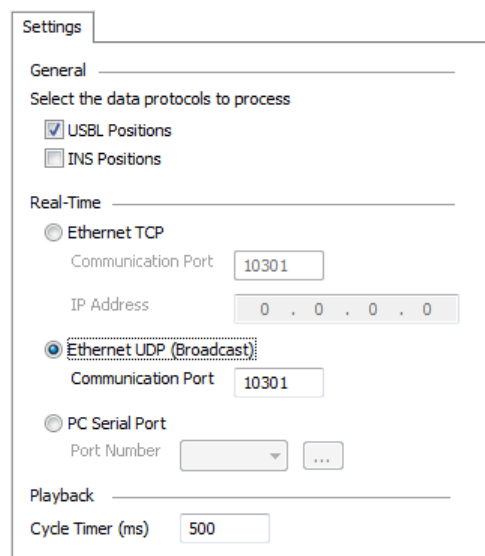

Figure 32 – Settings window of DELPH USBL driver
See the **Settings** window in Figure 32.
2.	Click on  to have access to the Settings window. The Settings window opens. See Figure 32.